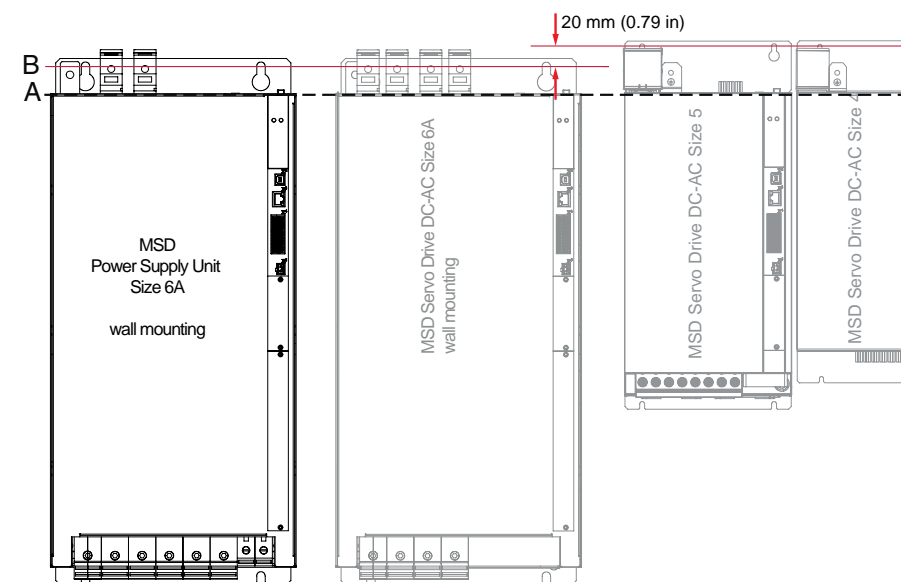

Figure 3.5 Butt mounting axis group, wall mounting with supply unit Size 6A
- Align the supply unit Size 6A and all MSD Servo Drive DC-AC in a line along the top edge of the devices (see line A in Figure 3.5). This action is necessary to be able to make the DC link connections. Move down the mounting bores for the supply unit Size 6A and the MSD Servo Drive DC-AC Size 6A by approx. 20 mm (0.79 in) (see red line B in Figure 3.5). It is imperative you pay attention to the information in Table 3.1 on the mounting distances.